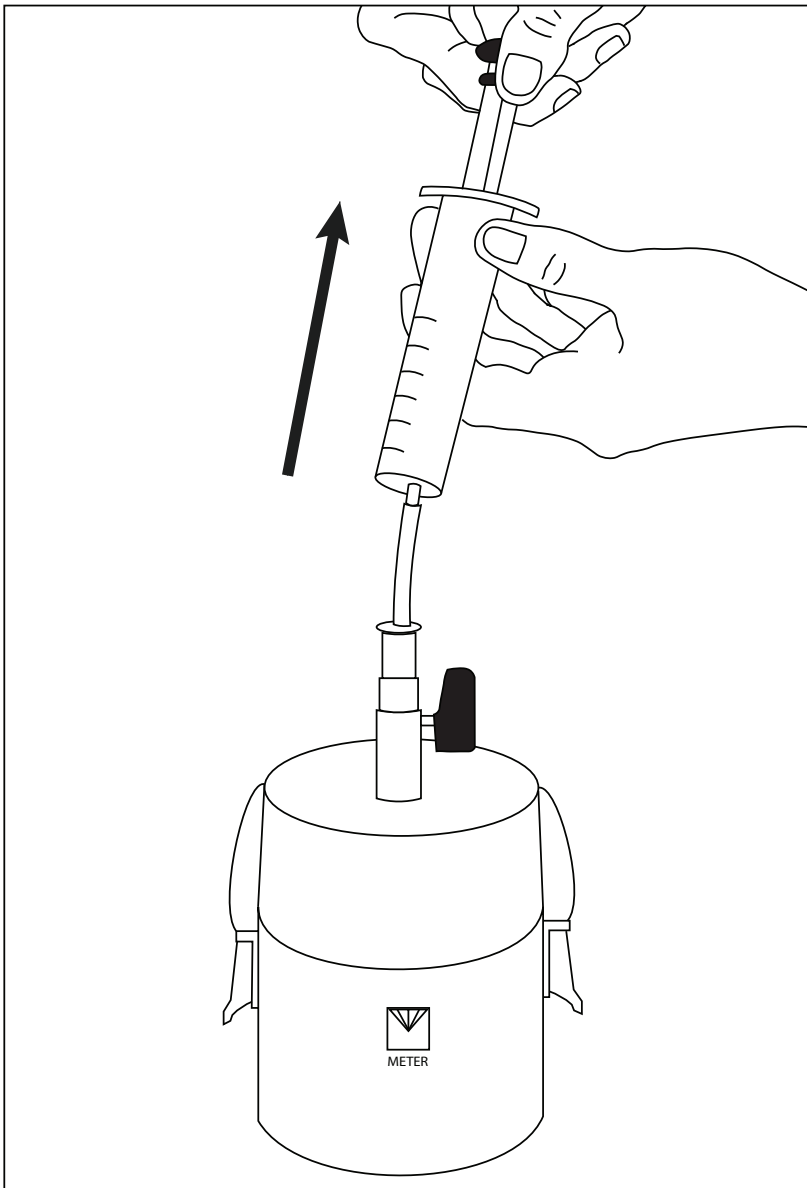

Figure 29 Degas the water in the sensor unit
28. Pull out the plunger of the vacuum syringe until the plunger stoppers snap (Figure 29).